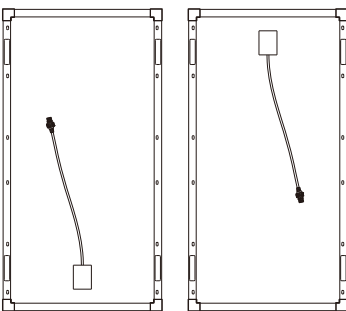

Figure 2
- a) Lay the two solar panels face down in parallel with the two terminal boxes on the opposite sides (referring to **Figure 2**).